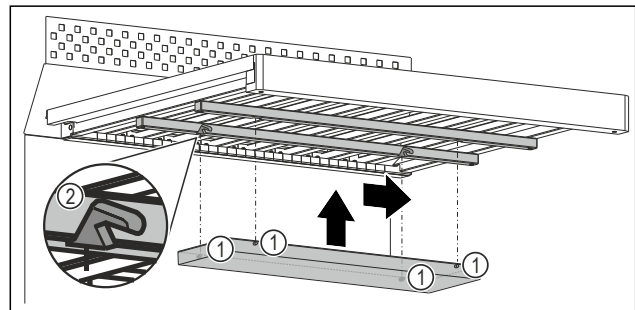

Fig. 123 Example illustration
- ▶ Insert each peg Fig. 123 (1) into the corresponding recess Fig. 123 (2) on the strips under the wooden grate.